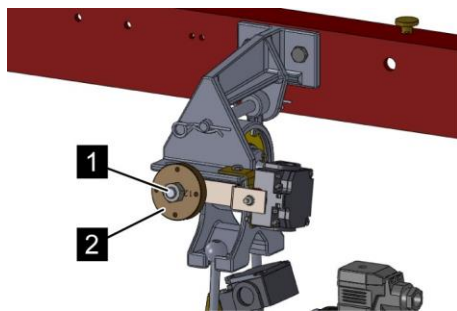

Fig. 80: Adjusting the weighing device
34. ➤ Screw the counterweight (Fig. 80/2) far enough onto the threaded rod (Fig. 80/1) that it still goes into the self-holder.